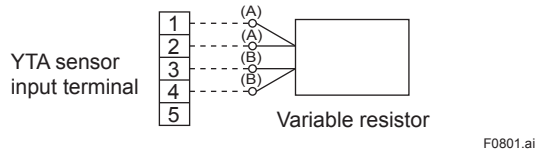

Figure 8.1 Example of wiring for calibration equipment
- 3) Connect the devices as shown in Figure 8.1 and allow the transmitter to warm up for at least 5 minutes.